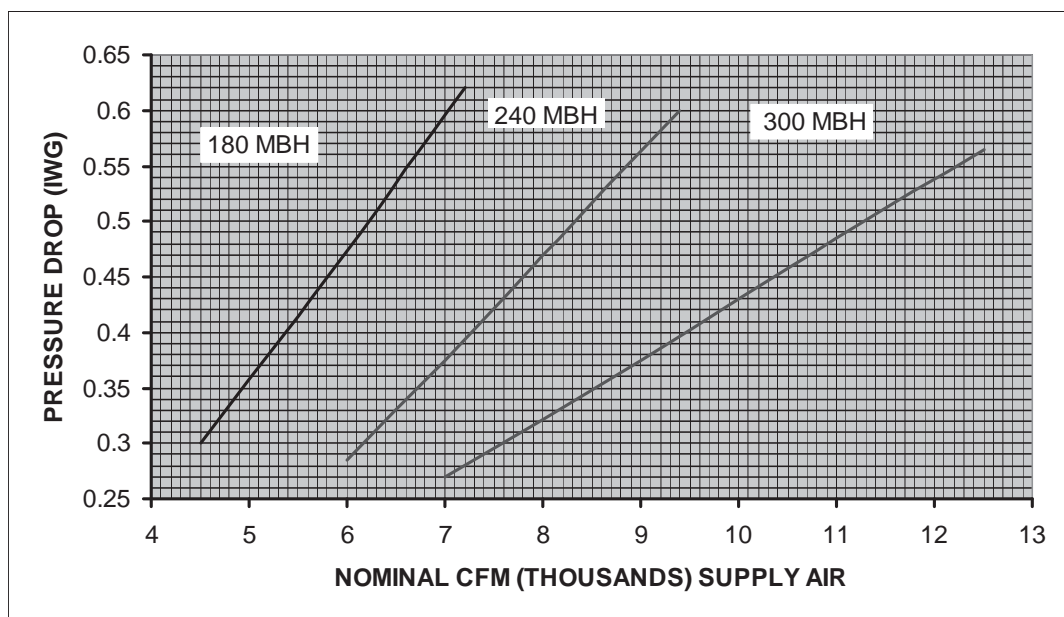

FIGURE 18 - PRESSURE DROP ACROSS A DRY INDOOR COIL VS SUPPLY AIR CFM FOR ALL UNIT TONNAGES
4. Knowing the pressure drop across a dry coil, the actual CFM through the unit can be determined from the curve in Pressure Drop vs. Supply Air CFM Figure 18.